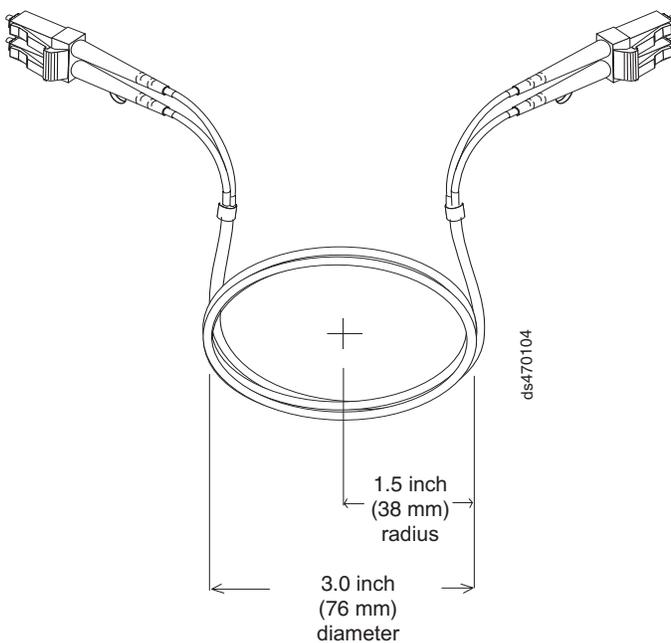

Figure 29. Recommended bending and looping specifications for fibre-optic cables
**Important:** IBM Fibre Channel (FC) cable options have been tested and approved for the IBM DS storage products. For optimal performance and compatibility, always use IBM FC cable options when installing the IBM DS products.
- When storing excess or unused fibre-optic cables, do not bend the cables to a diameter of less than 76 mm (3 in.), or a radius less than 38 mm (1.5 in.) or wrap them around themselves. See Figure 29 on page 50.